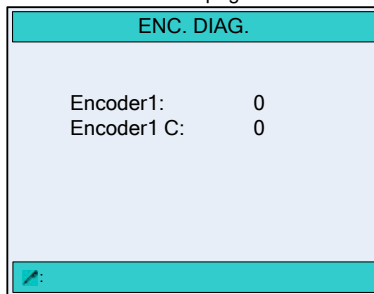

Figure 4-6 The **ENC. DIAG** page
On the **DIAGNOSE** page, move the cursor to parameter **5.ENC. DIAG.** (or press the number key 5), and press  to enter the **ENC. DIAG.** page, as shown in Figure 4-6.